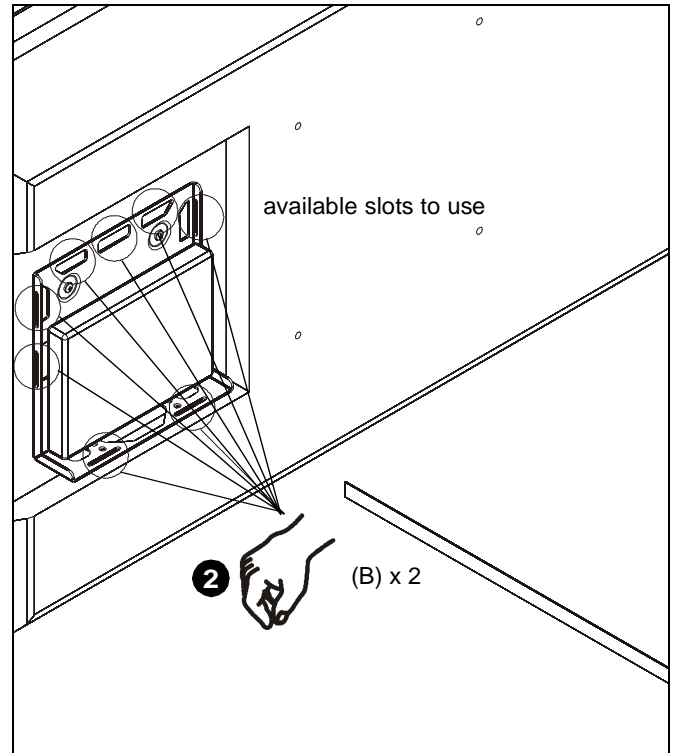

Figure 5
2. Use two velcro straps (B) to secure media player to bracket by threading the straps through the various slots on the bracket. (See Figure 5)